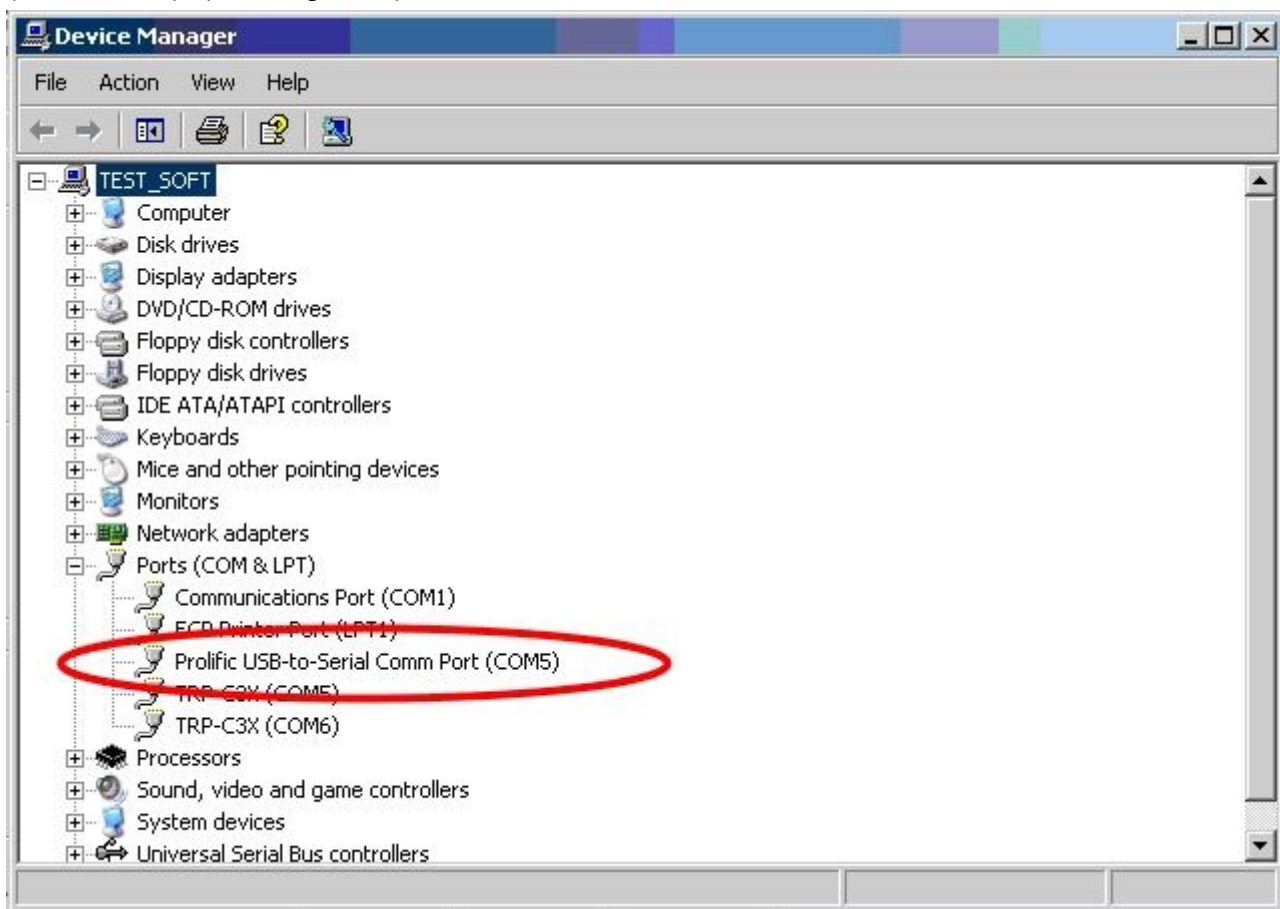

Fig.4
5. After installation user may verify if TRP-C08 was properly installed by Click Start – Setting -- Control panel -- double click system icon – Hardware Device Manager -- Double click on ports (COM&LPT) .(See Figure 4)